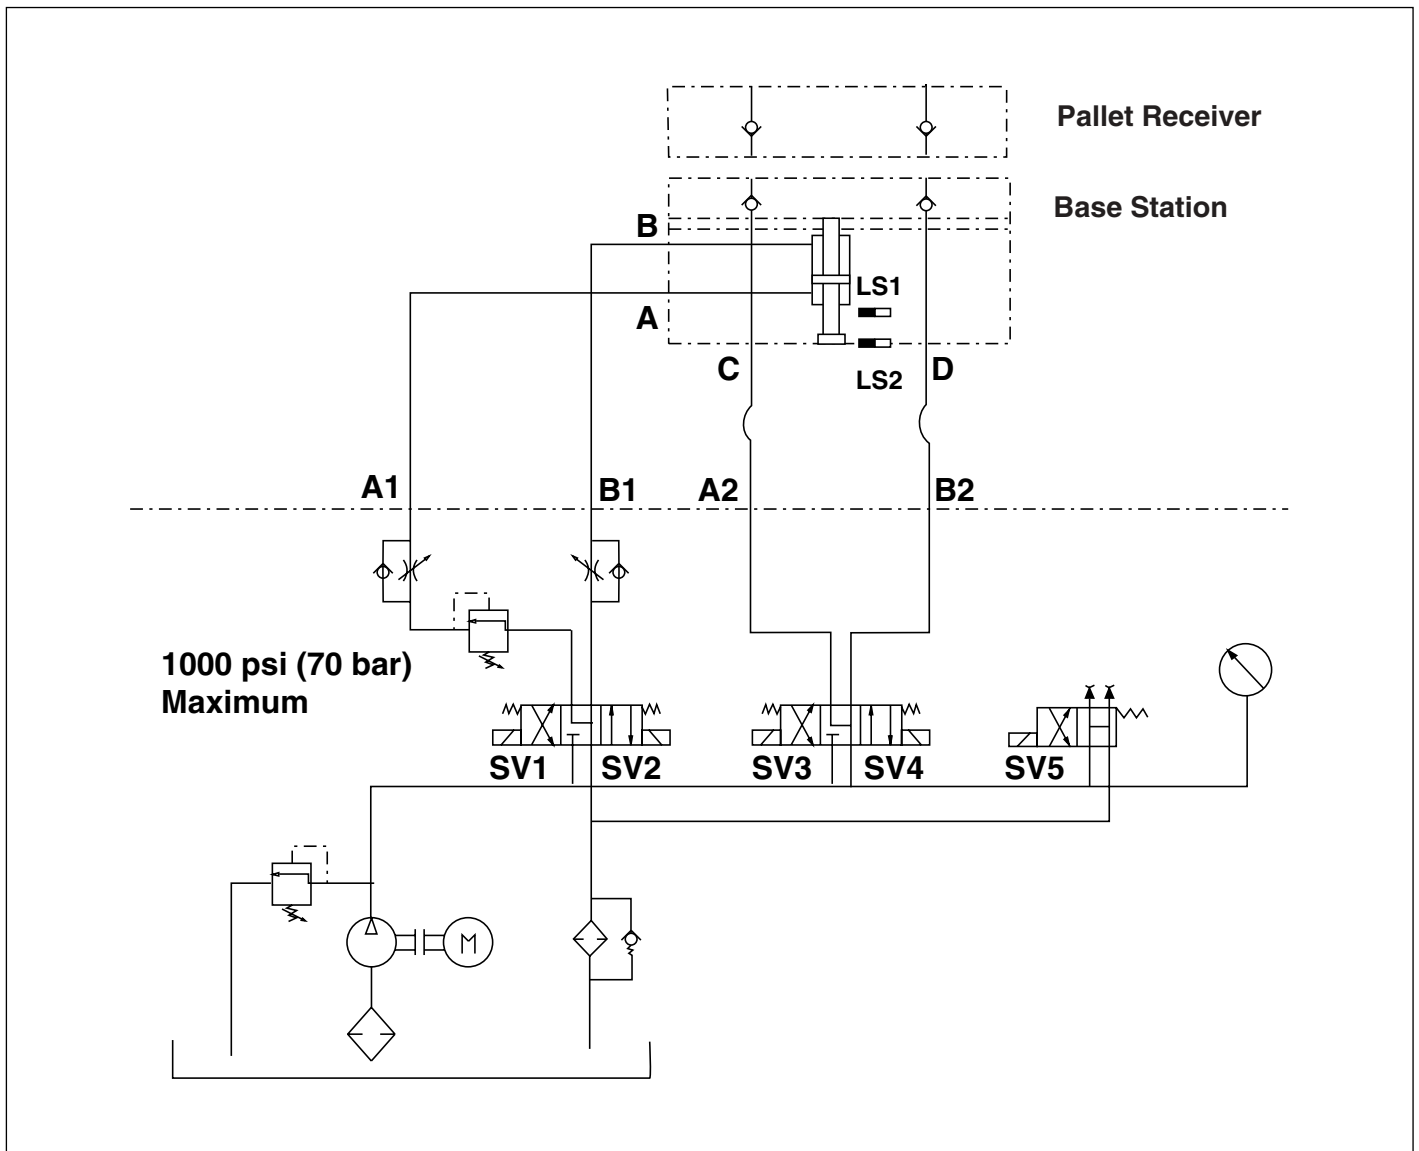

Figure 5, System Schematic
1. Make sure that your circuit is equivalent to proposed plan in Figure 5.